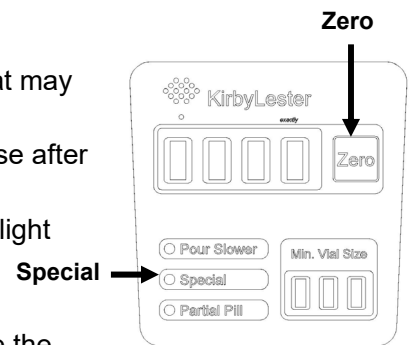

Fig. 9
- To enter Inventory mode, press and hold the **Zero** button and release after the double beep (Fig. 9).